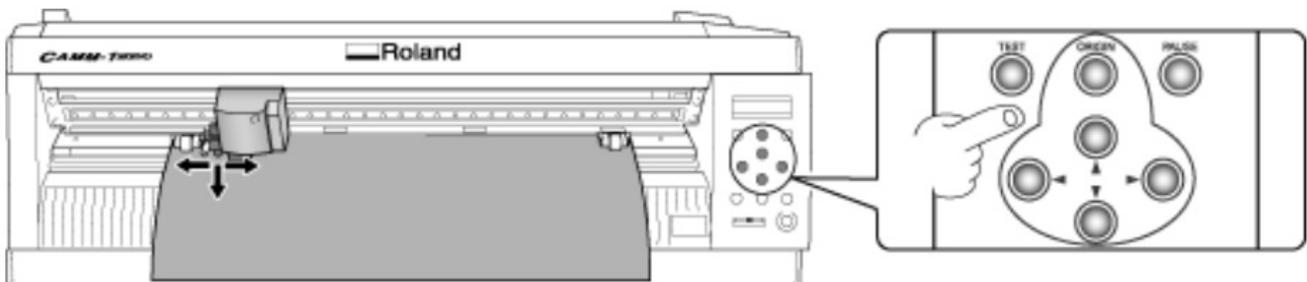

Figure 20: Origin of Job
26. **ALIGN** center of blade to the position you wish to define as your origin by using the cursor keys to move the **CUTTING CARRIAGE**. Start at the left edge as illustrated in Figure 20 as your origin.